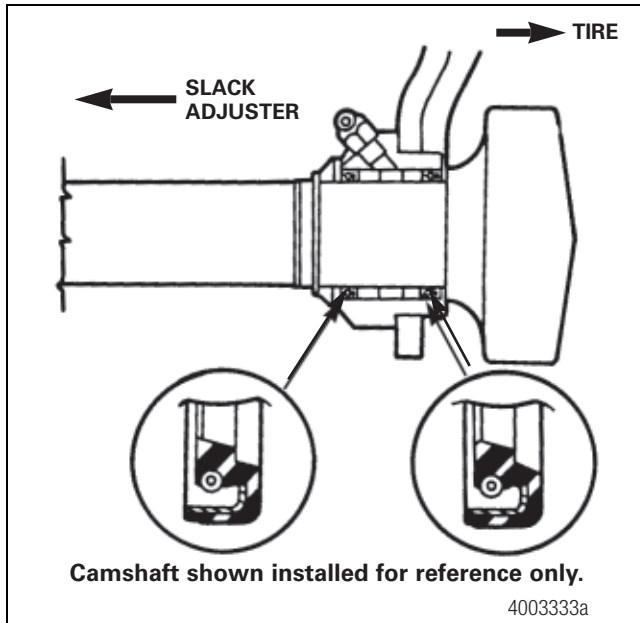

Figure 12.36
5. Replace all camshaft assembly parts as shown in Figure 12.33. Verify that the seals align in the correct direction. Figure 12.36.